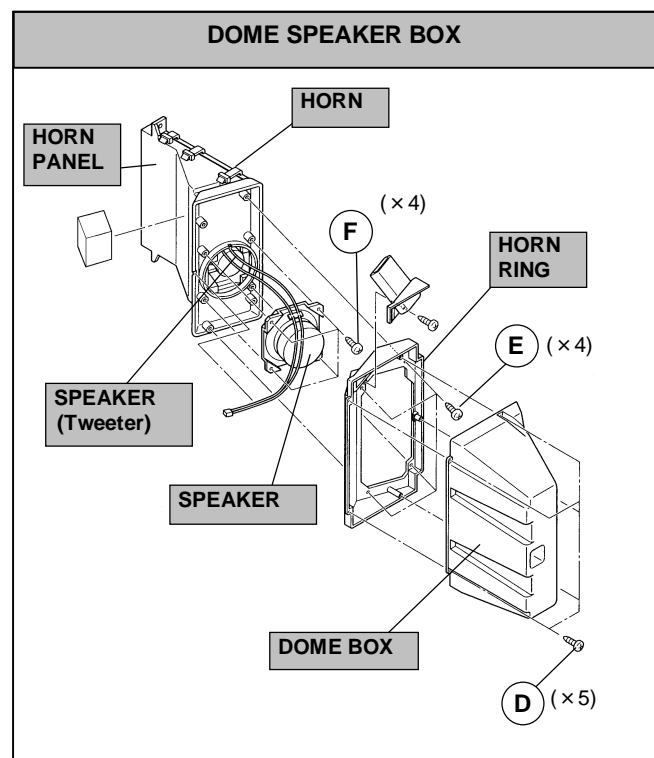

Fig. 2
2. Remove the 5 screws marked **(D)** as shown in the Fig.2, then remove the dome box.
3. Remove the 4 screws marked **(E)** as shown in the Fig.2, then remove the HONE RING.
4. Remove the 4 screws marked **(F)** as shown in the Fig.2, then remove the speaker.
1. As shown in Fig. 2, remove the many screws from HONE side, then remove the tweeter speaker screws to remove it.